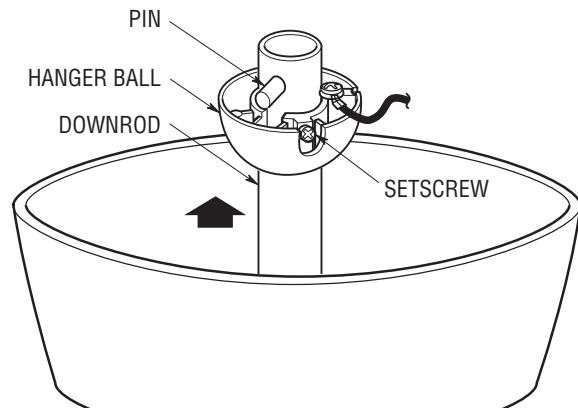

Figure 10
- 15. Reinstall the hanger ball on the downrod (Figure 10) as follows. Route the motor leads through the hanger ball and slide the hanger ball over the downrod. Install the pin through the holes at the top of the downrod and slide the hanger ball up the downrod, aligning the ball so the pin is captured in the groove in the top of the hanger ball. Pull the hanger ball up tight against the pin and securely tighten the setscrew in the hanger ball. A loose setscrew could create fan wobble.